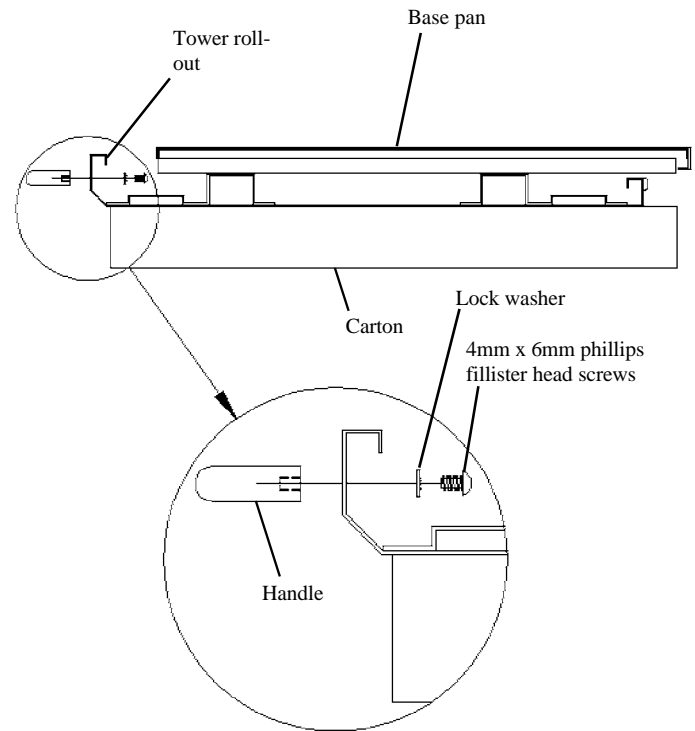

Figure 1
1. Place the Roll-Out , upside down, on it’s shipping carton. Extend the Roll-Out front approx. 2”-3” beyond the carton edge. See **Figure 1**. Remove the tape strips that held the **Base Pan** in position during shipping, and slide the Base Pan back.
2. Assemble a **12.76” Handle** to the Roll-Out using the two lockwashers and 4mm x 6mm phillips fillister head machine screws. Tighten securely. See **Figure 1**.